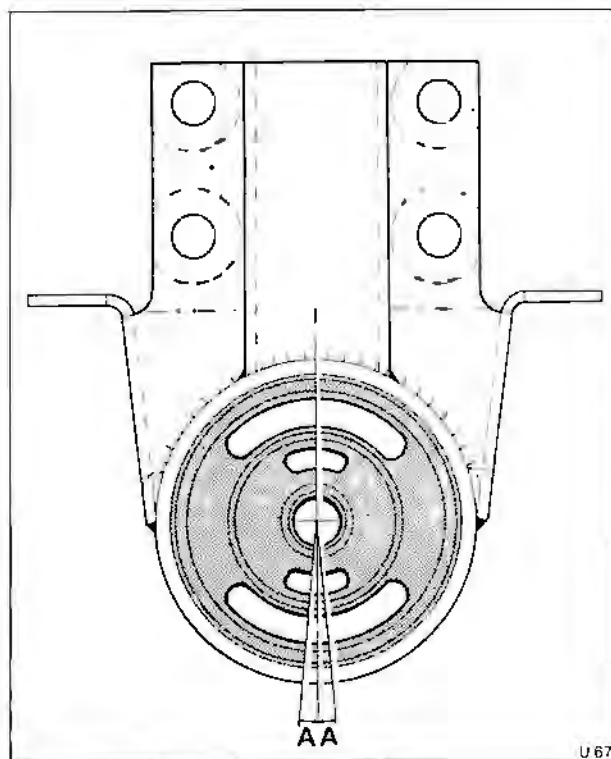

Fig. H9-2 Final drive crossmember mount alignment
10. Fit a new mount into the housing using the insertion components of tool RH 9291. Ensure that the slots in the mount are positioned as shown in figure H9-2.